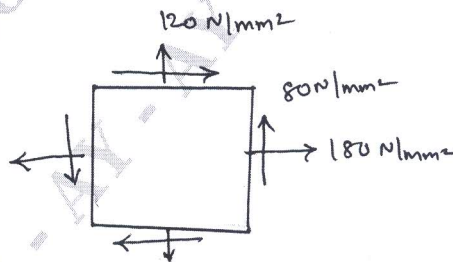

Fig.Q3(b)
- b. The state of stress at a point in a strained material is shown in Fig.Q3(b). Determine: